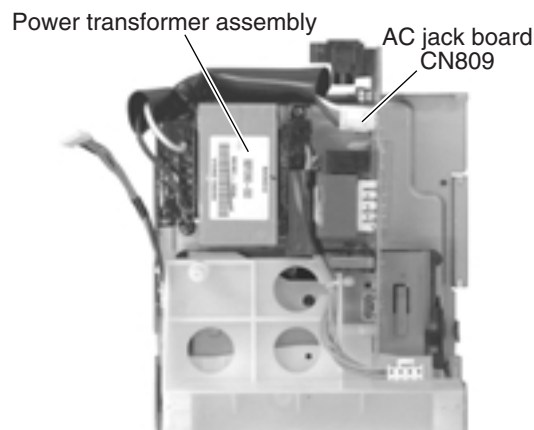

Fig.18
■ Removing the AC jack board (See Fig.18 and 19)